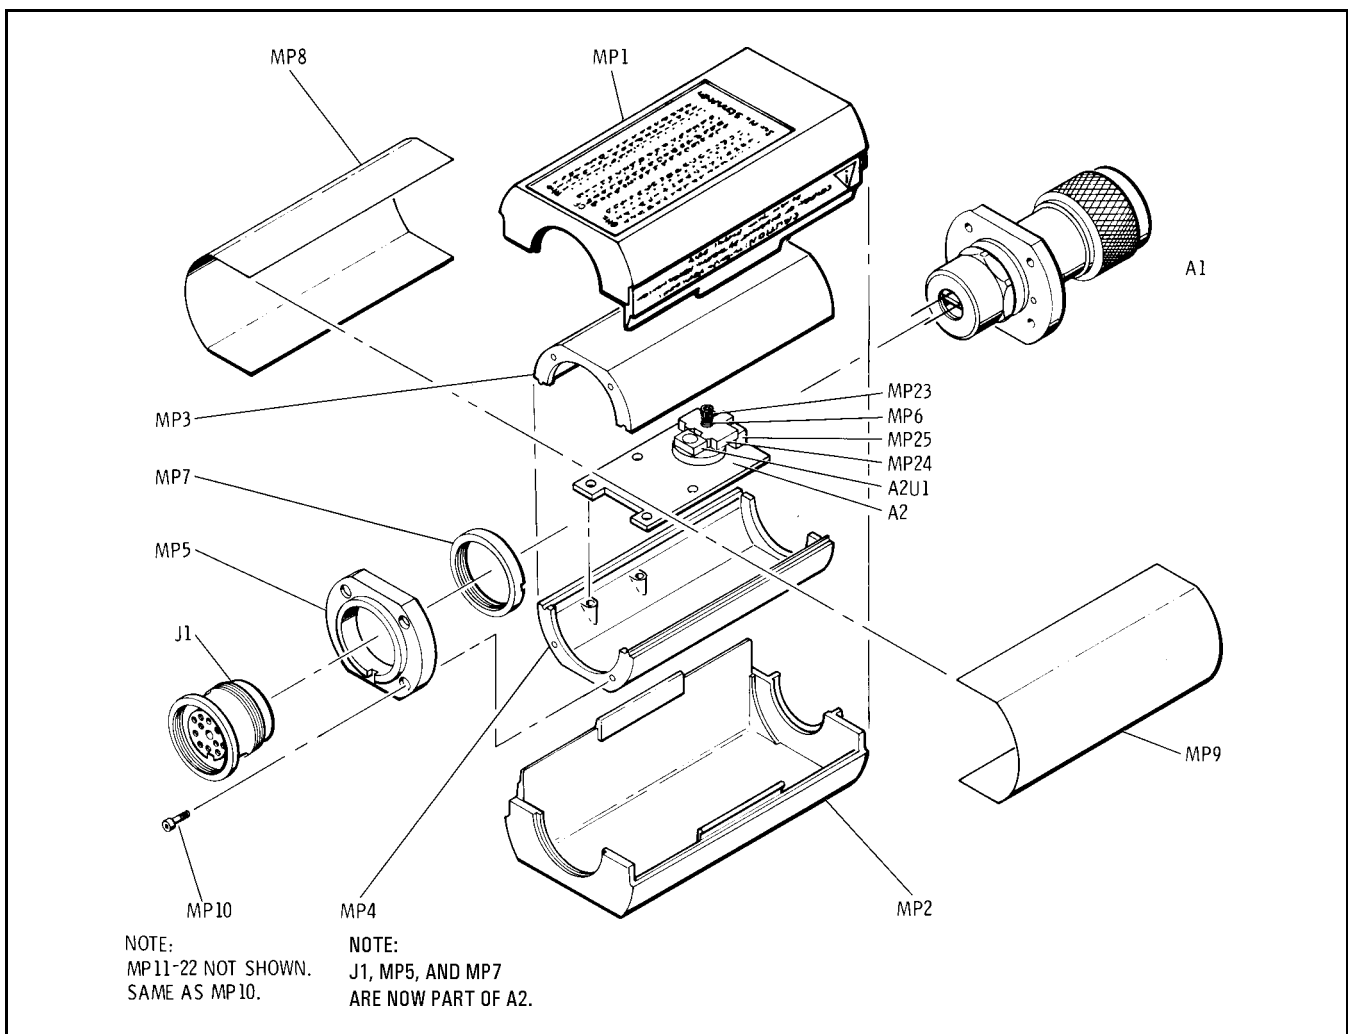

Figure 2. Illustrated Parts Breakdown
Table 5 is a list of replaceable parts. Figure 2 illustrates the major parts. To order a part listed in the “Replaceable Parts” table, quote the part number with Check Digit (CD), indicate the quantity required, and address the order to the nearest Agilent Technologies office.
The A1 Bulkhead Assembly provides a 50 ohm load (8481A and 8482A) or a 75 ohm load (8483A) to the RF signal applied at the RF INPUT. The rf signal is coupled through a dc blocking capacitor and absorbed by the thermocouples which generate a dc voltage proportional to the rf input power. The dc voltage is routed from the thermocouples to the input amplifier on gold wires to reduce undesired thermocouple effects. The gold wires pass through ferrite beads A2E1 and A2E2 which are located in the black plastic block. (See figure 2.) The ferrite beads increase the self inductance of the gold wires causing this portion of the wires to provide the properties of an rf choke. The result is to minimize rf feedthrough to the A2 Input Amplifier Assembly.